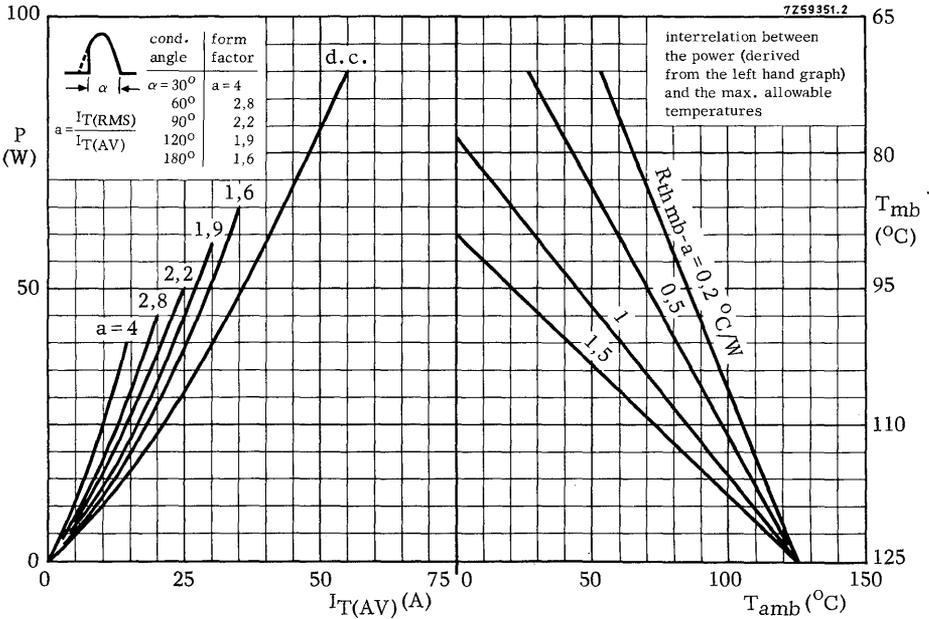
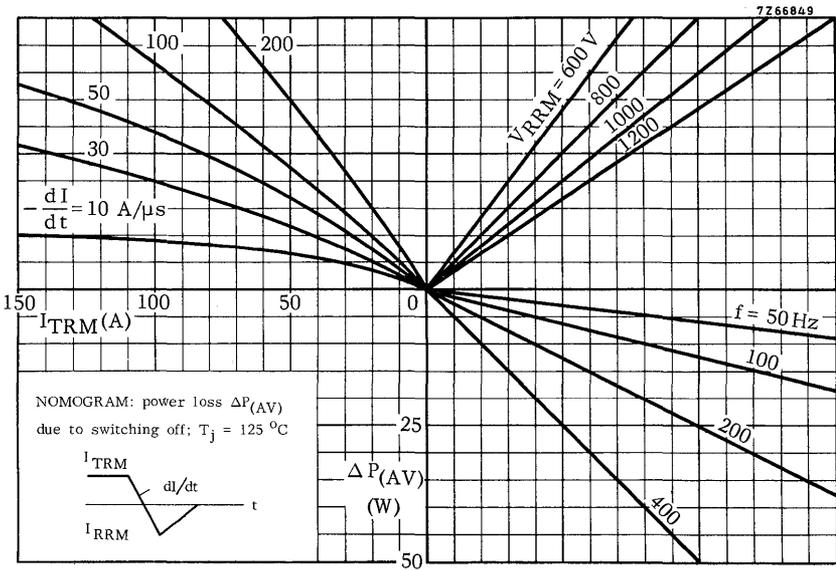

Fig. 4.
Fig. 14.
see Fig. 14
* To ensure thermal stability: $R_{th j-a} < 1$ °C/W (d.c. blocking) or < 2 °C/W (a.c.). For smaller heatsinks T_{jmax} should be derated. For a.c. see Fig. 4.
For applications in which the thyristor is forced to switch from an on-state current I_{TRM} to a high reverse voltage at a high commutation rate ($-dI_T/dt$), consult Fig. 14 (nomogram) to find the increase in total average power. This increase must be added to the loss from the curves in Fig. 4.